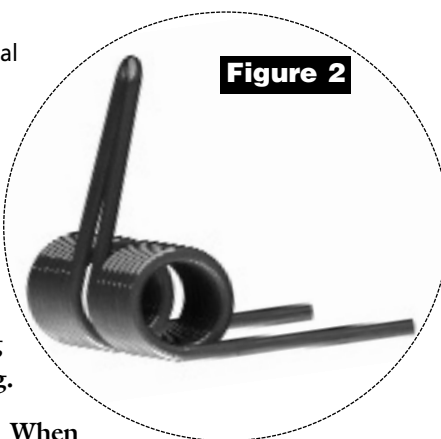
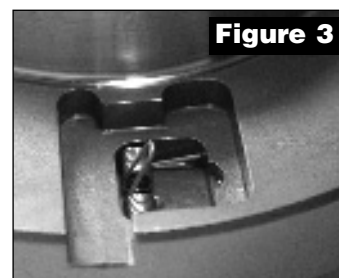

Figure 2
Figure 3
3. Orient the spring as shown in *Figure 2*. When installed correctly, the spring will look like the one shown in *Figure 3*.